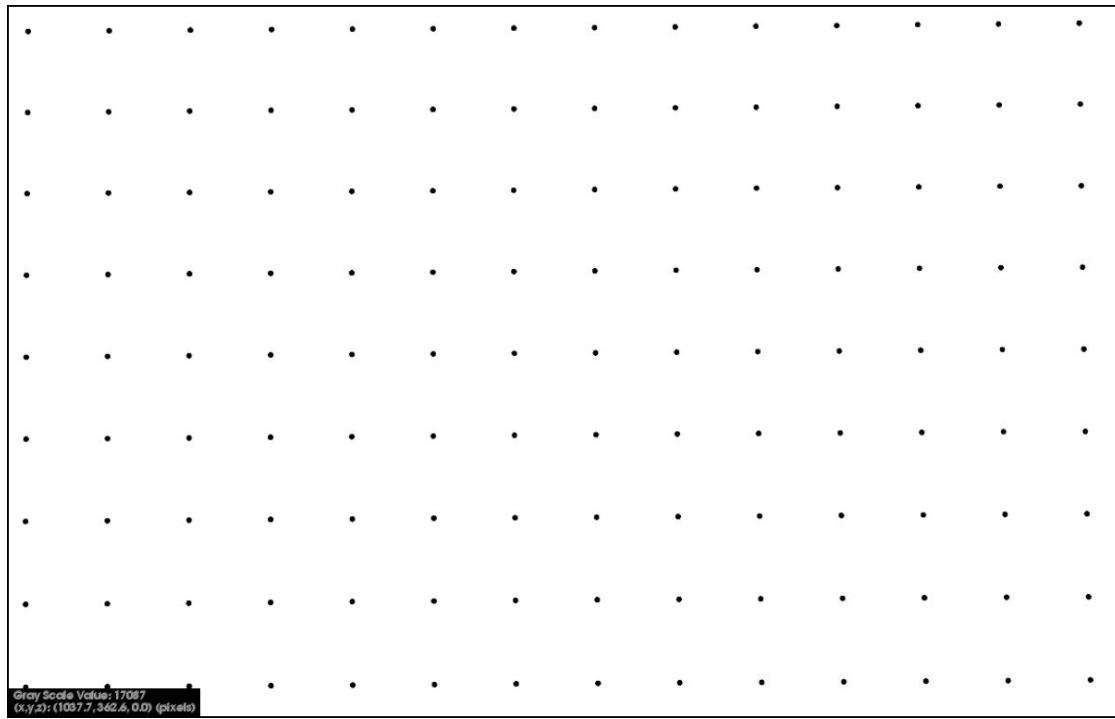
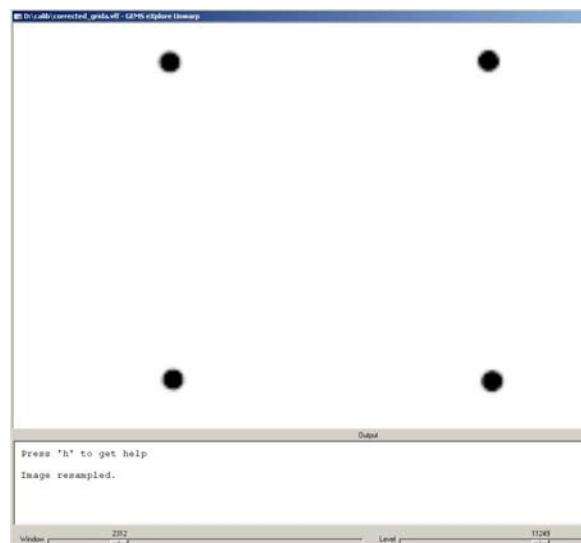

Figure 7-75
Figure 7-76
- 3.) Adjust the Window (e.g. 700) and Level (e.g. remove graininess) sliders until there are minimal pixels visible except for the grid's BBs (Figure 7-75). Make the BBs as big and round as possible, zooming in on individual BBs to check their roundness and the surrounding area for visible stray pixels (Figure 7-76). Not getting the Window and Level right may affect the centroid calculations. The background must be white (no grey).